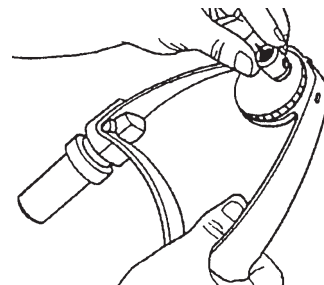

Figure 108
4. Mount the Cup Center into the Tailstock's Adjustable Center, as seen in Figure 108 then mount the Tailstock into the Base Arm (right side). Tighten the Base Arm Lock.